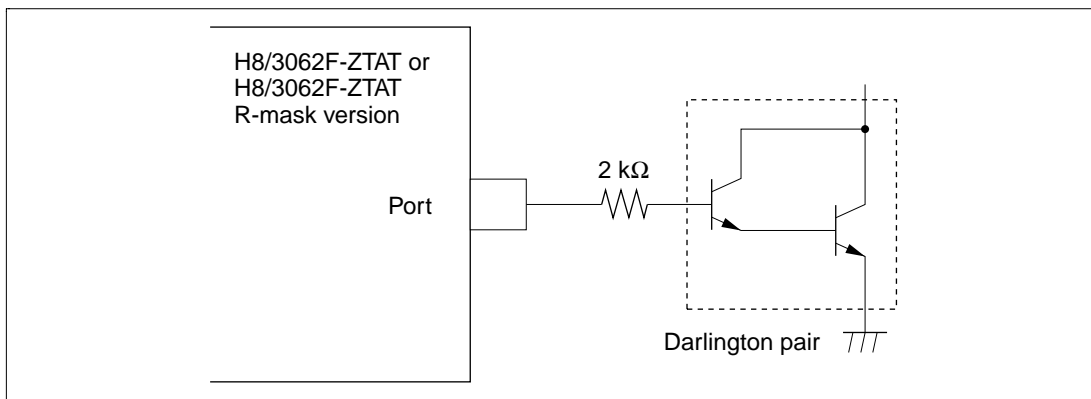

Figure 22.4 Darlington Pair Drive Circuit (Example)
2. When directly driving a darlington pair or LED, always insert a current-limiting resistor in the output line, as shown in figures 22.4 and 22.5.